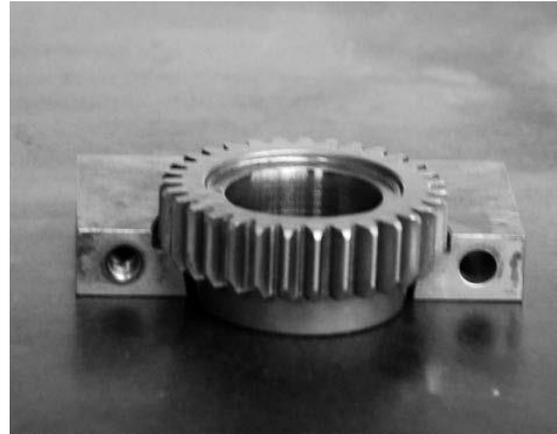

FIGURE 12 | SPLIT BEARING PRESS TOOL
2. You will need to use a split bearing tool (see page 3) to press the stock 5th gear off of the countershaft (figure 12). Press the gear off of the shaft as shown in figure 13. You must ensure that you have everything lined up completely vertical and parallel to the ram on the press. Getting the gear cocked or crooked on the shaft can and will result in both gear and countershaft damage.